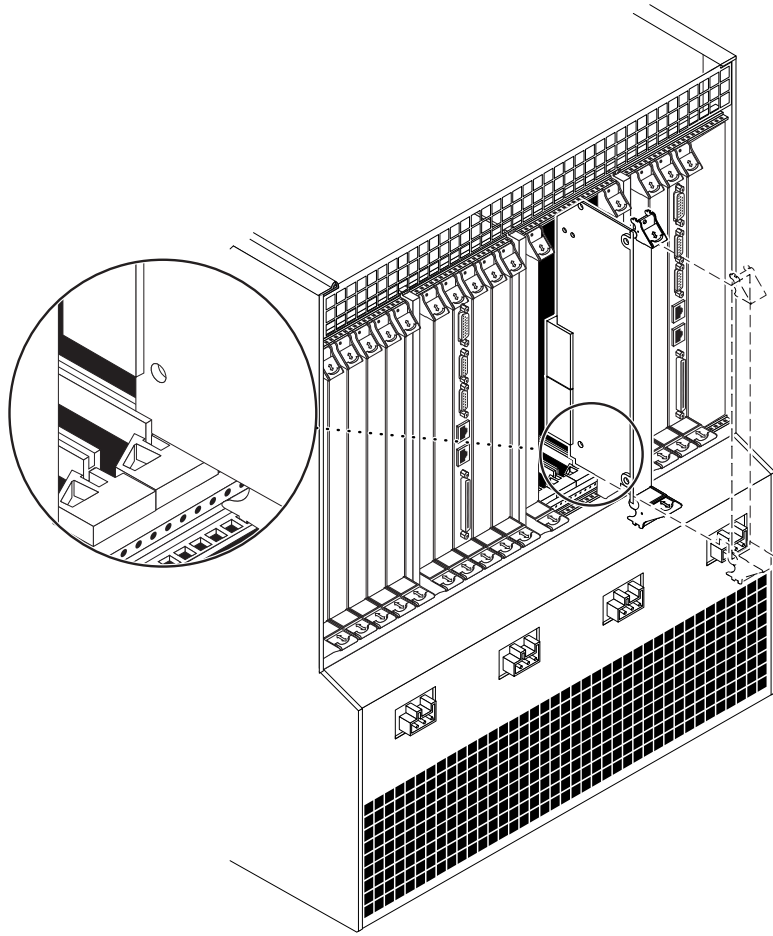

FIGURE 5-6 Aligning the Board With the Rear Board Cage Cutouts
6. **Keeping the module vertical, slide the RTM in between the two guides into the slot (FIGURE 5-6).**